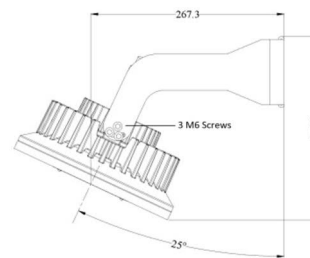

Figure 1
- ☞ Position the bracket holders and fix it by means of the provided M6 screws, 24.5 kgf-cm. (Figure 1)